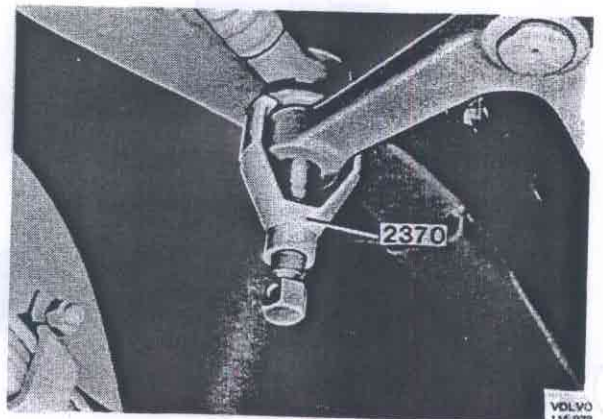

Fig. 64-25. Removing the steering rod
2. Pull off the steering rods from the auxiliary steering arm with puller 2370, see Fig. 64-25.